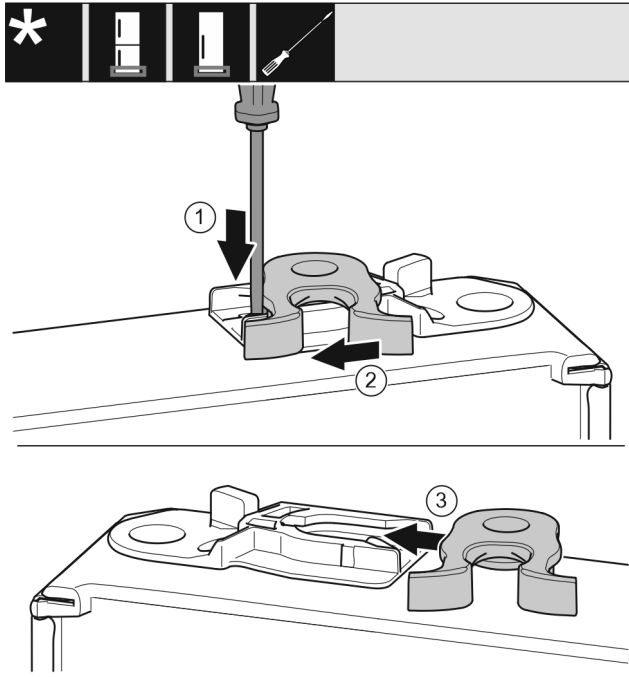

Fig. 15
- ▶ Push the lug downwards with a slotted screwdriver. Fig. 15 (1)
- ▶ Pull the door latch out of the guide. Fig. 15 (2)
- ▶ Push the door latch into the guide on the other side. Fig. 15 (3)